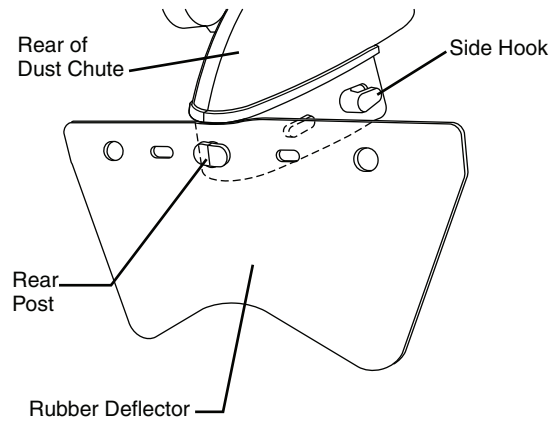

Figure 9. Attaching Rubber Deflector on Rear Post
**Removing Deflector** – Pull one of the deflector’s tabs to the front and then sideways until it comes off one of the dust chute’s side hooks (see Figure 9). Unhook the opposite side. Then unhook the deflector from the rear post of the chute by pulling and stretching until it is free. NOTE: Removing the deflector lowers dust collection capability.